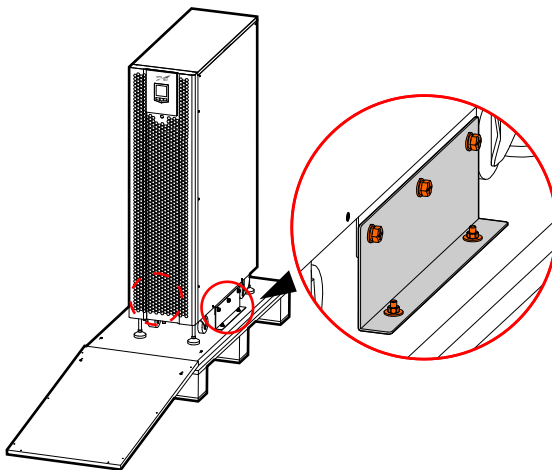

Figure3-4 Bolts position
Step 6 After checking, unscrew the bolts that connected with the UPS and wooden bracket and the supporting plate by socket wrench, the bolt position as shown in Figure3-4, remove the supporting plate.